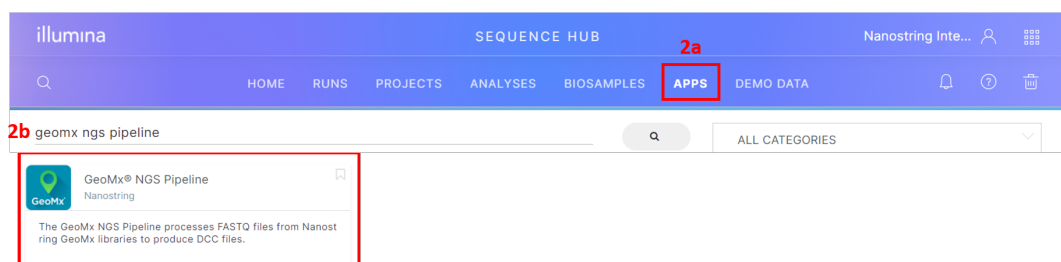

Figure 14: Find GeoMx NGS Pipeline application
2. Select Apps, then search for GeoMx and select GeoMx NGS Pipeline (Figure 14).